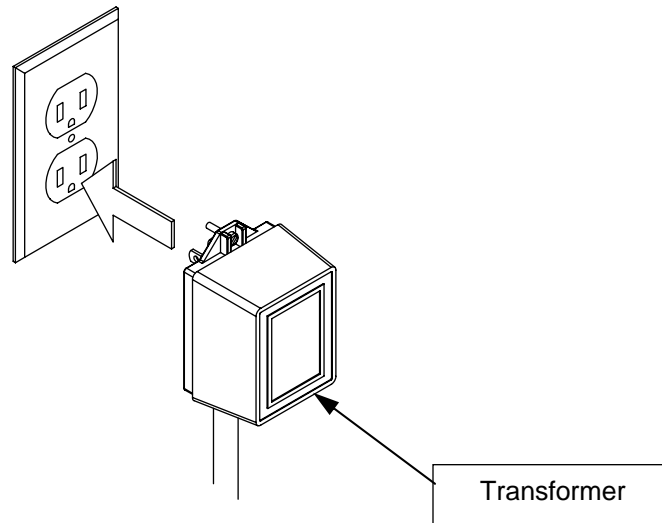

Figure 28
Step 23: Plug in the water heater and the transformer to power the Setback Control. This is shown in Figure 28.